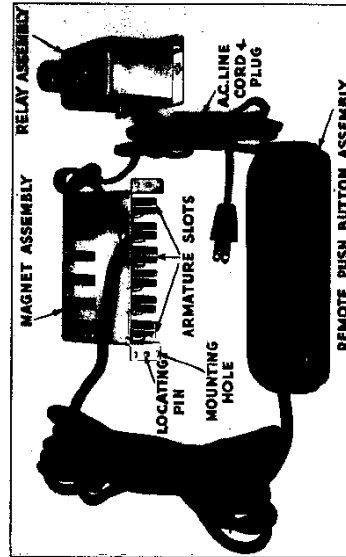

FIG. 1 GENERAL VIEW
9. Rest the Magnet Assembly on the chassis base and move it slightly toward the back of the radio until the locating pins (see Fig. 1) on each side of the Magnet Assembly frame slip into the locating holes at both sides of the opening in the chassis base (see Fig. 3).
5. Pick up the Magnet Assembly (see Fig. 1) — note that there are six armature arms, each of which is slotted.